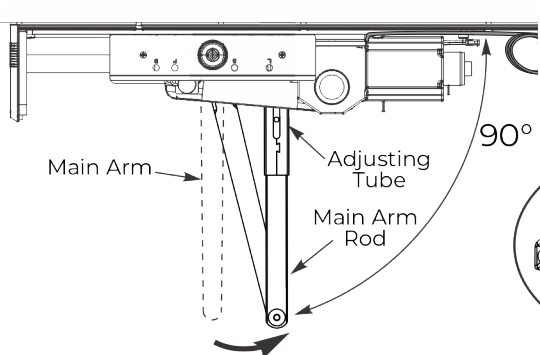

Fig. 19 View from ceiling looking downward
3. With door closed, rotate main arm away from hinge until adjusting tube is perpendicular (90 degrees) with door. (Fig. 19)